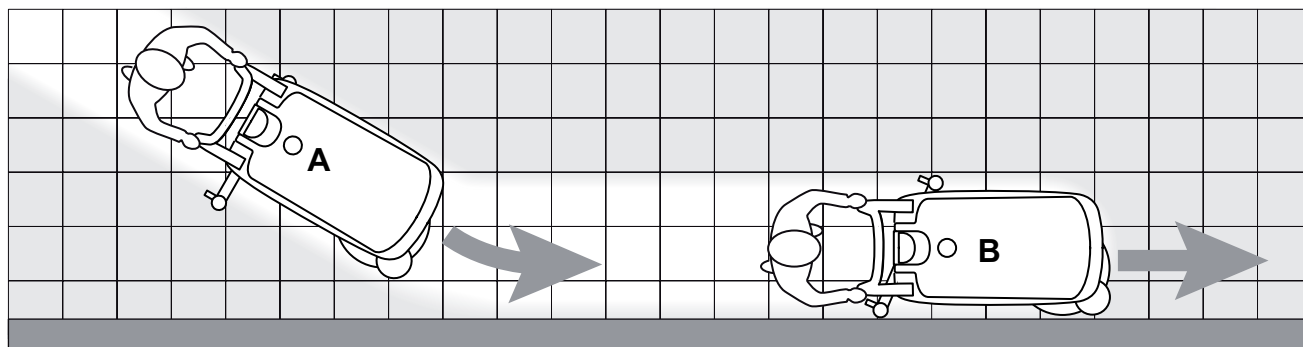

Figure 4
2. While keeping both hands on the handlebar (2), move the machine and start scrubbing/drying the floor.
3. If necessary, adjust the solution quantity by using the push-button (54).
*To avoid damaging the floor surface, do not use the brush without the solution and, when the machine is not operating, stop the brush/pad-holder by releasing the push-buttons (51).*
*Before lifting the brush/pad, turn it off by releasing the push-buttons (51).*
*For correct scrubbing/drying of floors at the sides of the walls, Clarke suggests to go near the walls with the right side of the machine as shown in figure 4.*